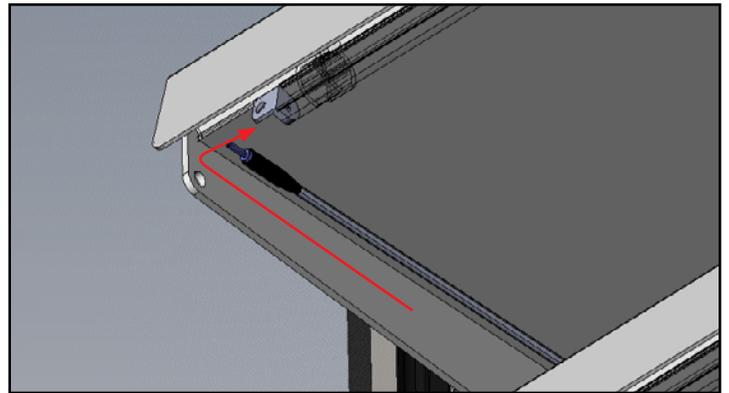

Fig. 2. Route the power cord to the LED module.
2. Gently pull the power cord and route it to the LED module, located under the front lip of the shelf. See fig. 2.